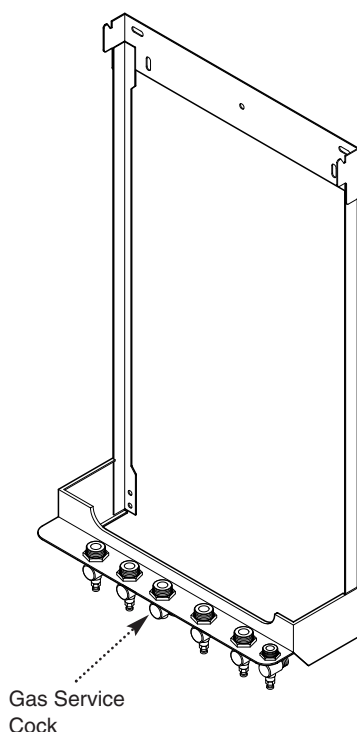

Fig. 8
2. The connection to the appliance is a 22mm copper tail located at the rear of the gas service cock (Fig. 8).